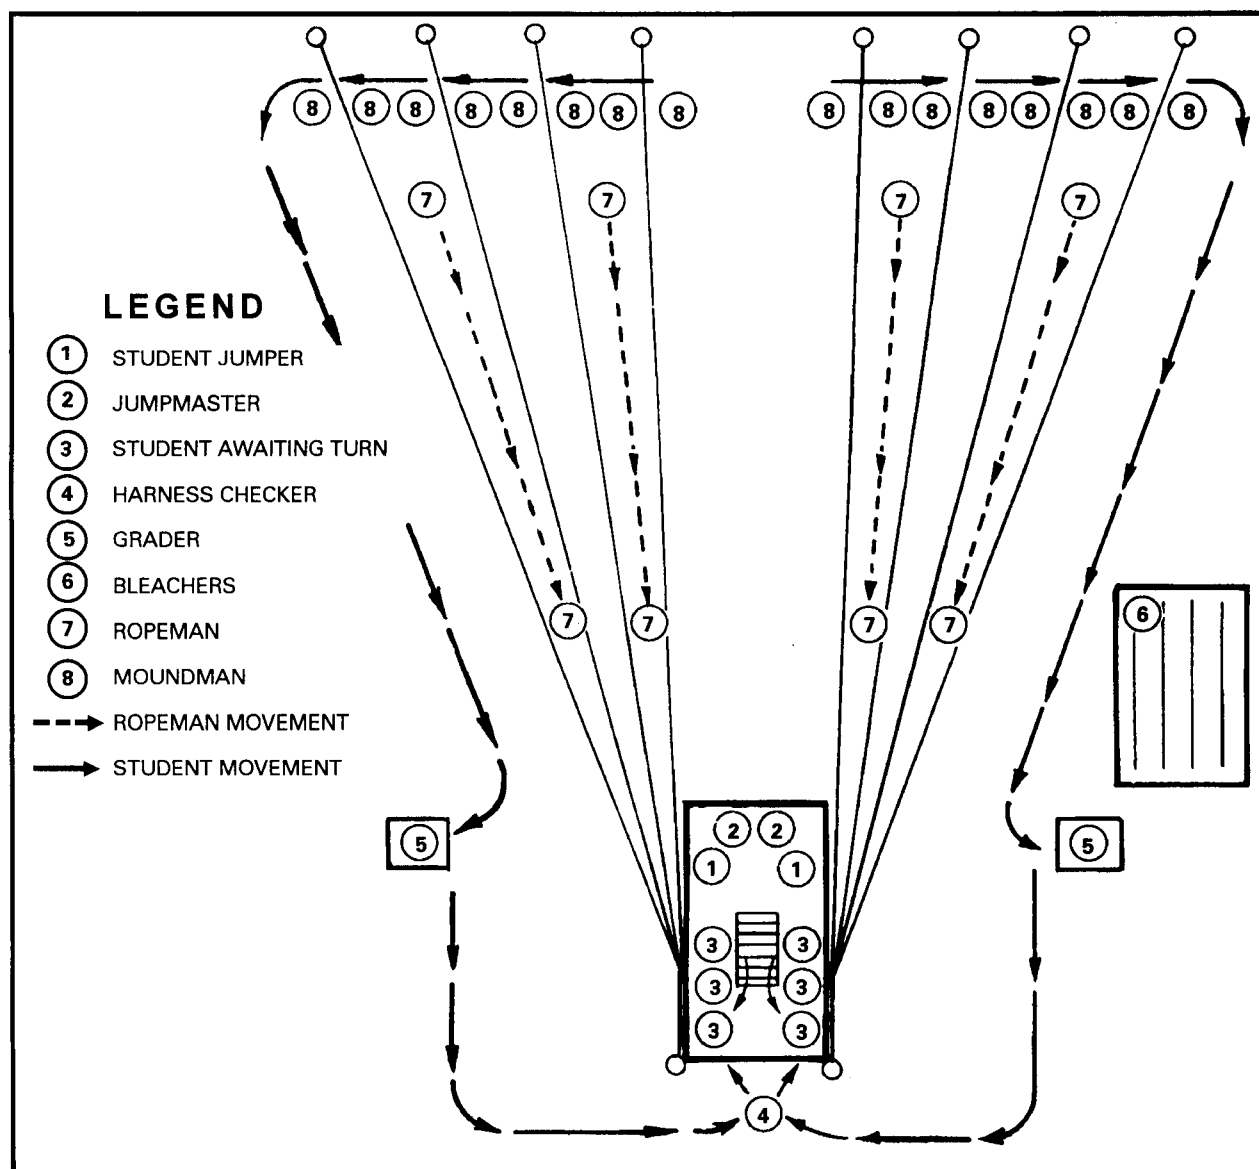

Figure 4-10. Tower personnel positions.
a. **Instructors.** A minimum of seven instructors are required to operate this apparatus. Their positions are indicated in Figure 4-10.
- (1) Two mock door instructors correct students on problem areas and give them additional practice.
- (2) Two JMs hook up students in the tower and issue the last two jump commands.
- (3) Two graders on the ground critique and grade the students' performance on the apparatus.
- (4) One harness checker inspects all harnesses before students exit the tower.